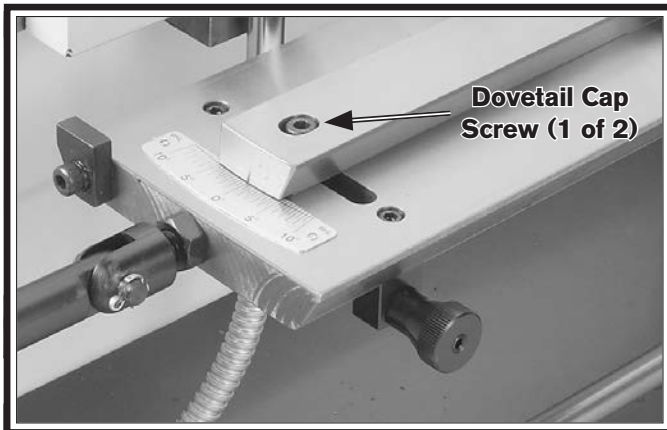

Figure 25. Dovetail cap screw (1 of 2).
- Loosen both dovetail cap screws (see **Figure 25**).